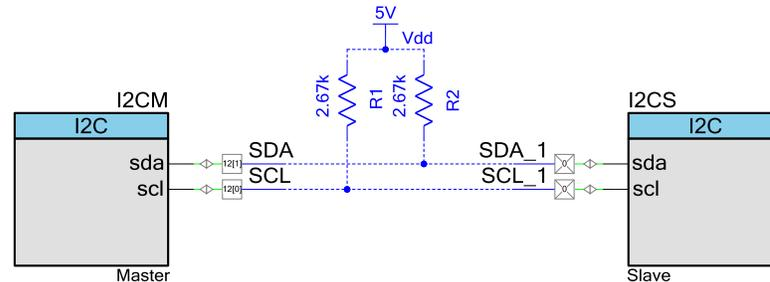

Figure 1. Connection of SDA and SCL to pull-up resistors
3. For I2C communication, connect P12[0] to SCL, P12[1] to SDA. Use 2 external 2.67k resistors to pull-up SCL and SDA to 5V (Figure 1). Note that Figure 1 is a depiction for the
- Externally connect the corresponding pins (SCL and SDA) on I2C Master board to the Slave (SCL and SDA) as depicted in Figure 1.